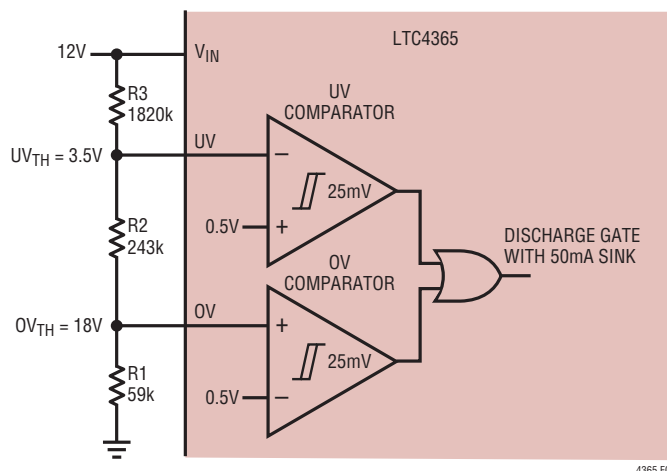

Figure 3. UV, OV Comparators Monitor 12V Supply
The LTC4365 provides two accurate comparators to monitor for overvoltage (OV) and undervoltage (UV) conditions at V_{IN} . If the input supply rises above the user adjustable OV threshold, the gate of the external MOSFET is quickly turned off, thus disconnecting the load from the input. Similarly, if the input supply falls below the user adjustable UV threshold, the gate of the external MOSFET also is quickly turned off. Figure 3 shows a UV/OV application for an input supply of 12V.
The external resistive divider allows the user to select an input supply range that is compatible with the load at V_{OUT} . Furthermore, the UV and OV inputs have very low leakage currents (typically $< 1nA$ at $100^\circ C$), allowing for large values in the external resistive divider. In the application of Figure 3, the load is connected to the supply only if V_{IN} lies between $3.5V$ and $18V$. In the event that V_{IN} goes above $18V$ or below $3.5V$, the gate of the external N-channel MOSFET is immediately discharged with a $50mA$ current sink, thus isolating the load from the supply.
The following 3-step procedure helps select the resistor values for the resistive divider of Figure 3. This procedure minimizes UV and OV offset errors caused by leakage currents at the respective pins.
The example of Figure 3 uses standard 1% resistor values. The following parameters were selected: